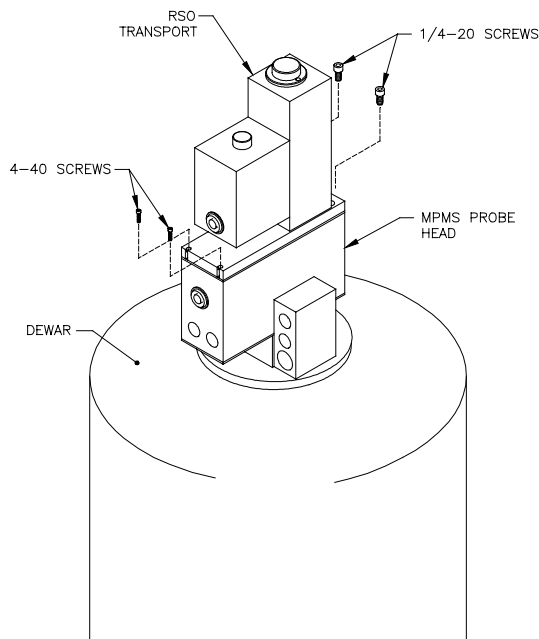

Figure 22. The RSO sample transport.
8. Install the two 1/4-20 x 3/4" mounting screws supplied with the upgrade kit in the front and the two 4-40 x 1/2" screws on the back of the RSO transport to hold it in place (**Figure 22**).